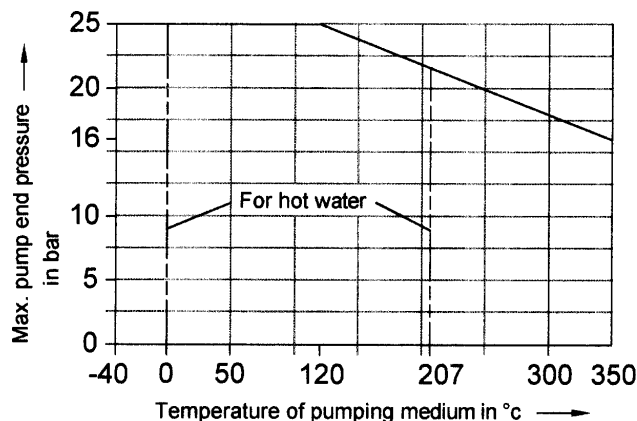

Fig.5 : Applicable for all liquids including organic heat transfer media including hot water.
3) CPK E pumps applicable for fig. 5 are available with flanges according to ANSI B 16.5 class 300 RF only. All other CPK E pumps are available with flanges according to ANSI B 16.5 class 150 RF.